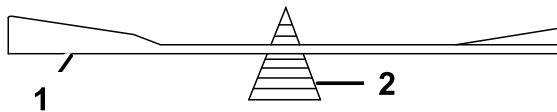

**Figure 49**
1. Use a file to sharpen the cutting edge at both ends of the blade (Figure 49).
**Note:** If the blade is not balanced, file some metal off the end of the sail area only (Figure 49).